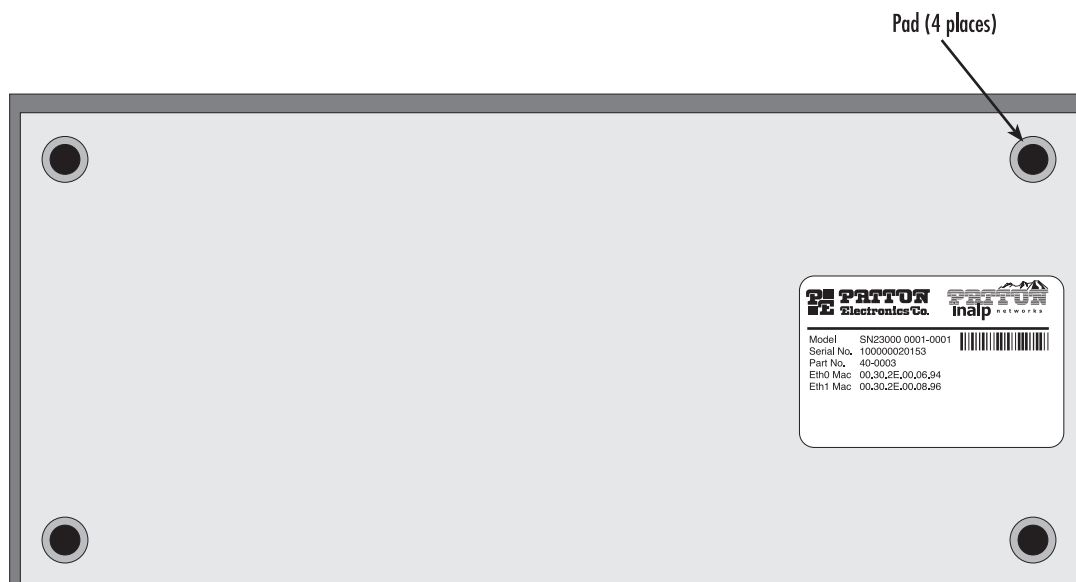

Figure 55. Pad locations
1. Remove one of the rubber pads from the adhesive strip (included in the SmartNode installation kit pack) and place it on a corner on the bottom of the SmartNode 2300 (see figure 55).